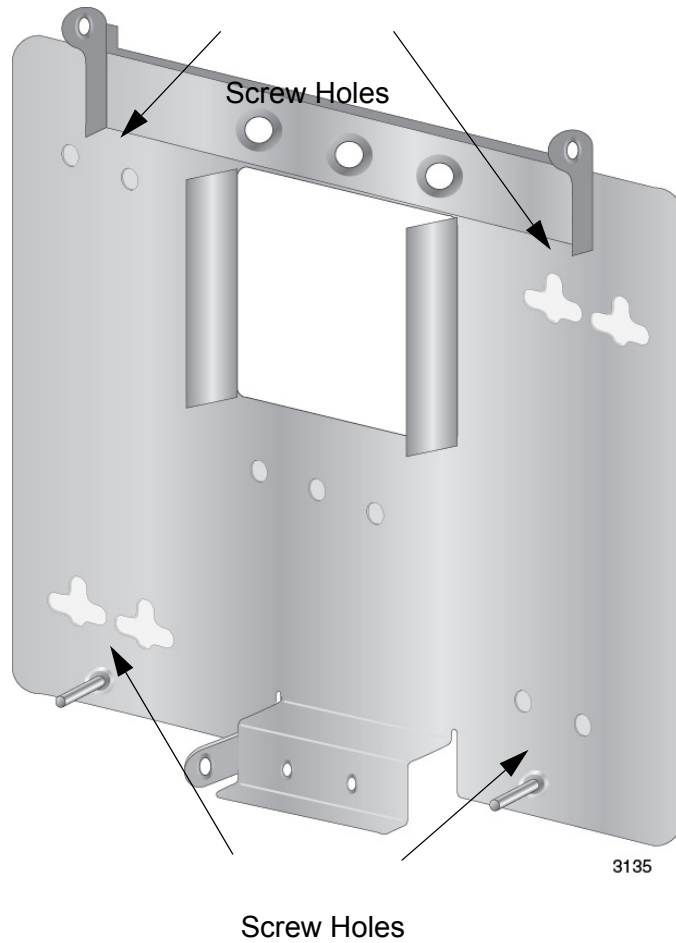

Figure 11. Screw Holes on the Bottom Panel of the AT-TQ3600 Bracket
- The bottom panel has eight screw holes. Refer to Figure 11 on page 36. The holes are grouped in pairs. The unit should be secured to the wall or ceiling with a minimum of four screws. You may use either screw hole in a pair when choosing the holes.